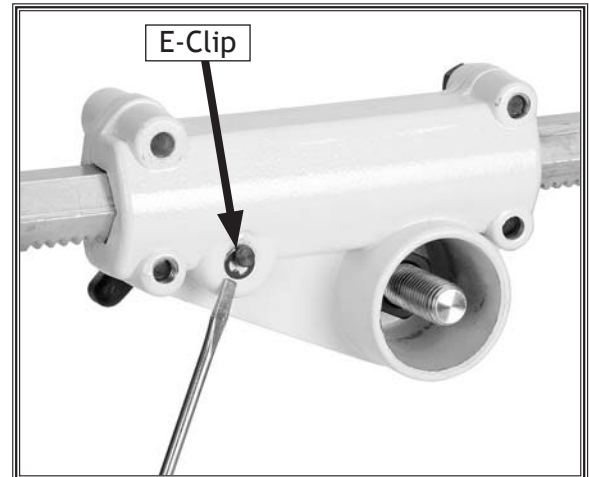

Figure 10. Horizontal movement handle E-clip.
- Place the E-clip on the end of the horizontal crank to retain the crank as shown in **Figure 10**.